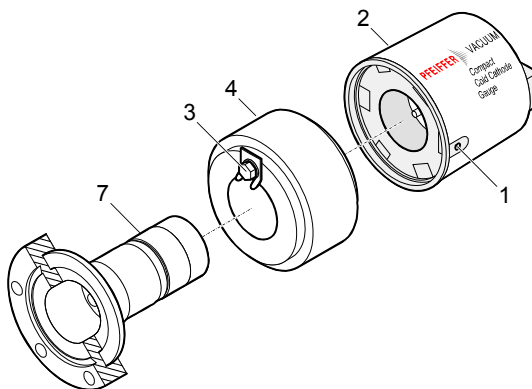

Figure 3a
- ➋ Unfasten the hexagon socket set screw (1) on the side of the electronics unit (2) (→ Figure 3a).